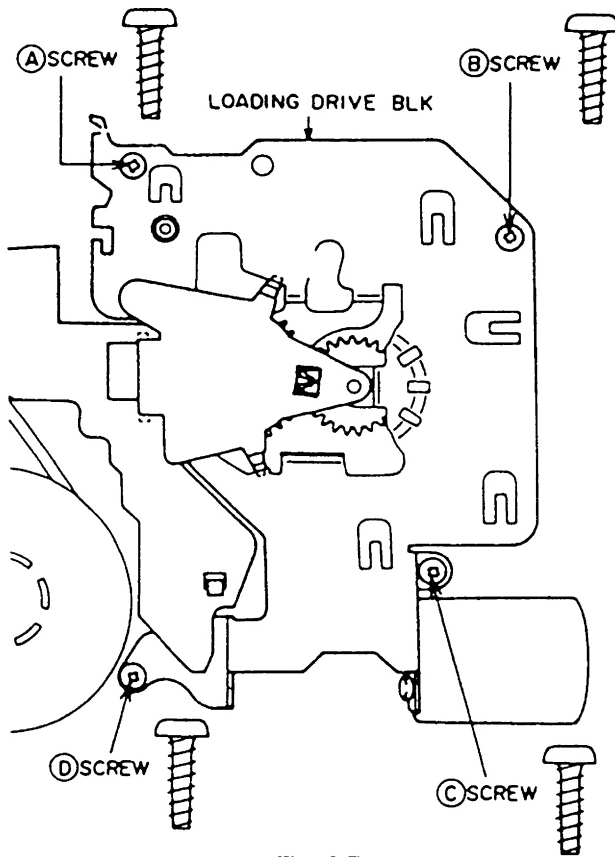

Fig. 3-7
- 3) Remove the (A), (B), (C) and (D) screws, then remove the LOADING DRIVE BLK as shown in Fig. 3-7.